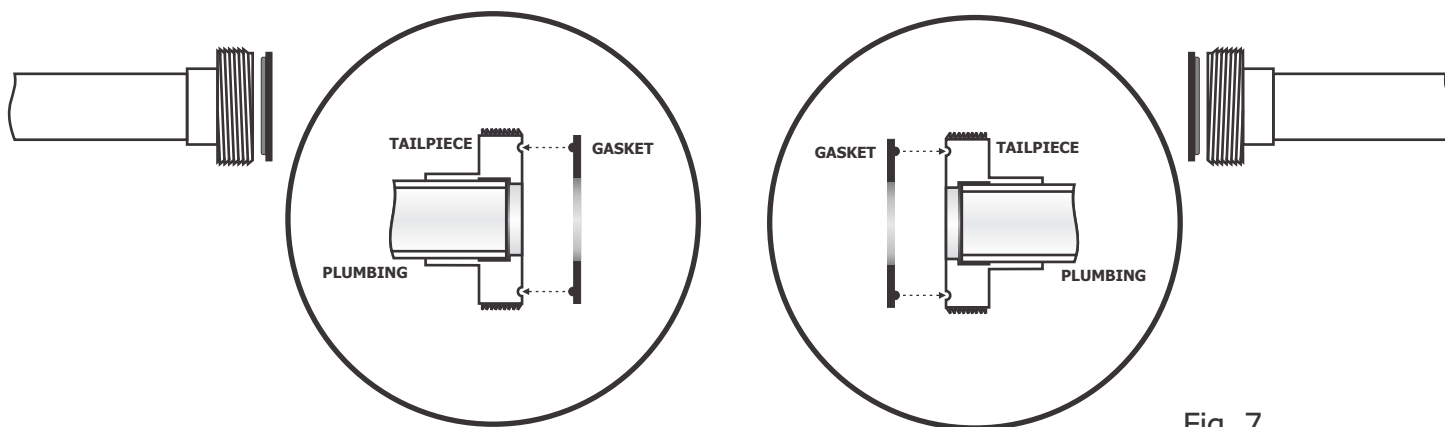

Fig. 7
- 3 - Remove two (2) heater gaskets included with your Whirlpool heater and install them onto the plumbing tailpieces, making sure the gasket ridge is seated in the tailpiece groove (see Fig. 7). Remove one (1) union gasket and install at pump discharge.**